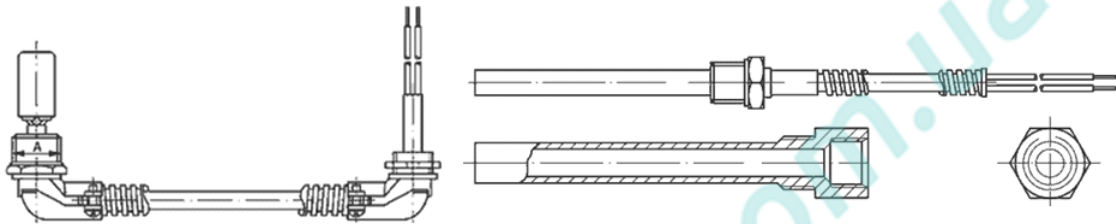

Figure 22: Crankcase heater 27W, 70W and 100W
- The internal crankcase heater for K compressors is a self-regulating 27-Watt PTC heater (see Fig. 22).
- Heaters for D3, 3D, D4 and D6 compressors are screwed into a sleeve (see Figure 22).